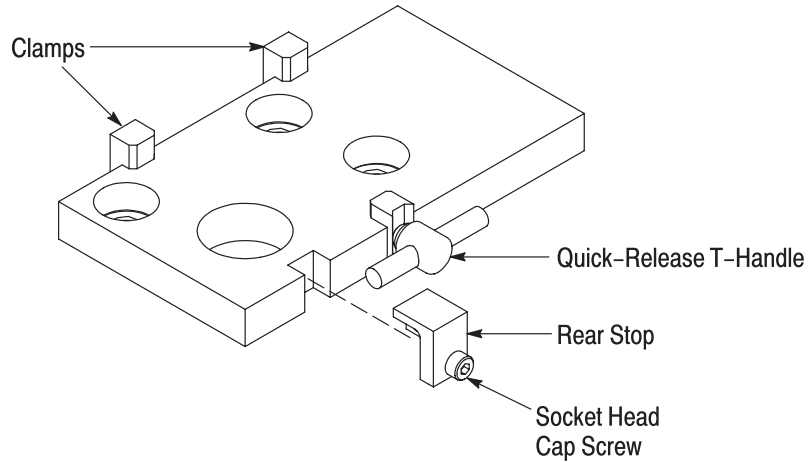

Figure 15
7. Prepare the base plate for Air Feed Kit 1424266-1 (for Machines -2 and -3) as follows: install the socket head screw and rear stop to the base plate, then remove the back left base plate clamp. Refer to Figure 15.